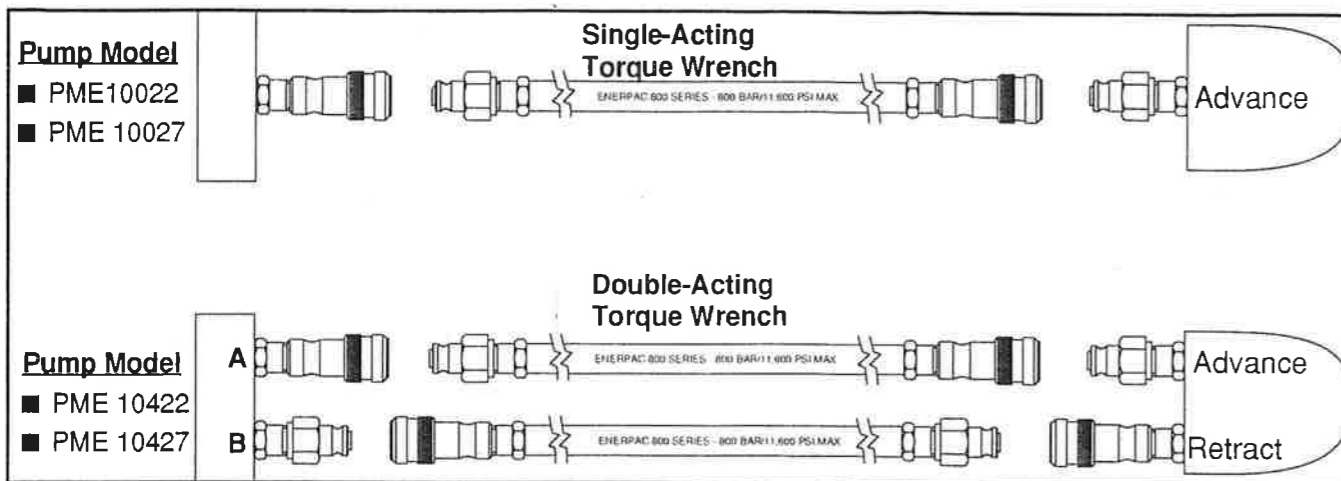

Figure 4 - Coupling Diagram
2. Connect other end of hose to coupler on wrench as shown in Figure 4 on page 4.
2. Couple hoses to torque wrench as shown in Figure 4 on page 4. When using the Enerpac pump and torque wrench combination, Series 800 hoses and couplers are designed so that the pump advance port can only be connected to the wrench advance port, and the pump retract port can only be connected to the wrench retract port.